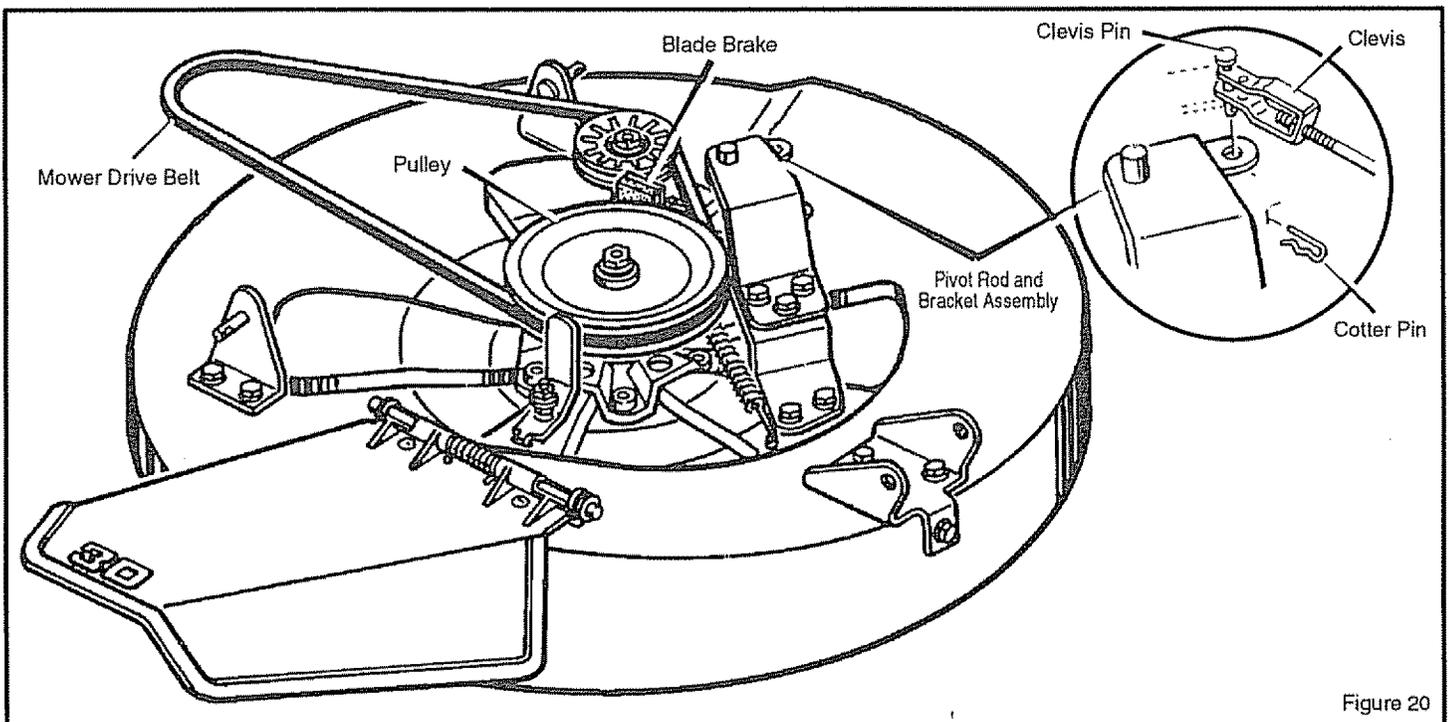

Figure 20
6. If an adjustment is needed, disconnect the **clevis** from the **pivot rod and bracket assembly** (Figure 20). Turn the **clevis** clockwise to decrease the free movement of the **attachment clutch**. Turn the **clevis** counterclockwise to increase the free movement.